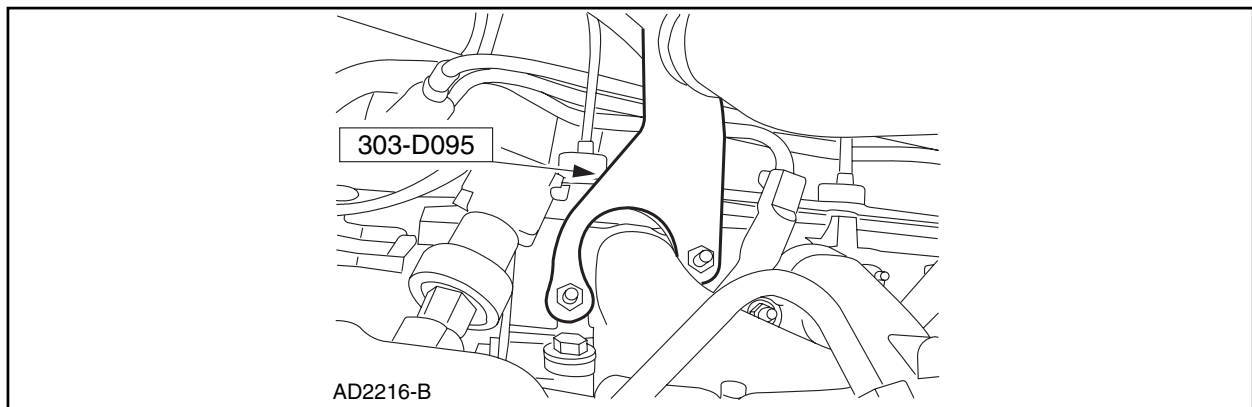

FIGURE 2
3. Install the Engine Lifting Bracket Set special tool 303-D095. See Figure 2.